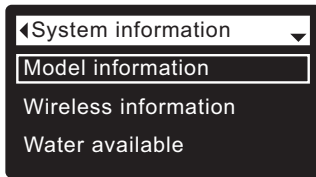

FIG. 62
3. Press the SELECT (O) button to display the System information menu (See Figure 62).
7. When finished viewing an information screen, press the SELECT (O) button. The display will go back to the System information menu (Figure 62). It will also exit automatically if no buttons are pressed for four minutes.